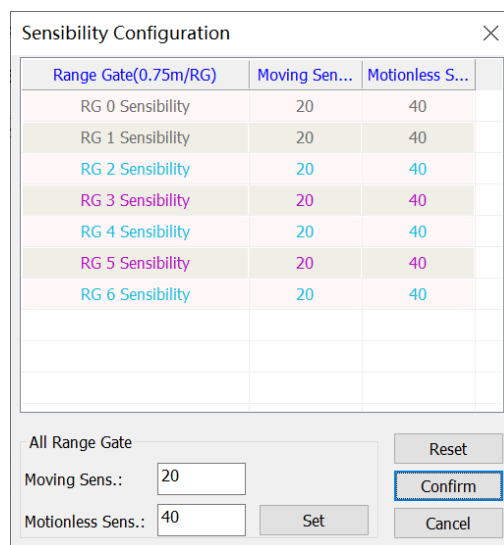

Figure 4-3 GUI of Sensibility Configuration
Step 1: After connecting the module to the host as instructed in Connect to Device, click the **Sensibility** button in Zone (2), and a new window Sensibility Configuration will appear, as is shown in Figure 4-3. Users can configure the sensibility of each range gate in multiple ways.